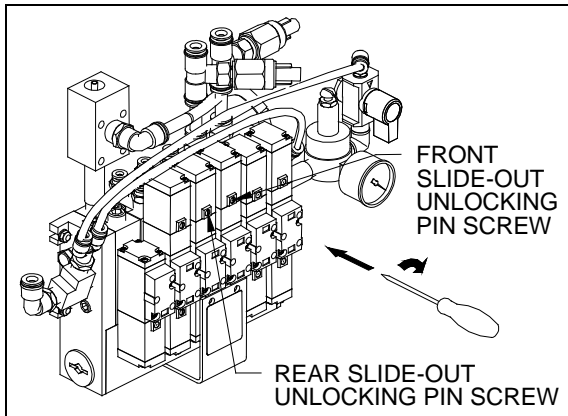

FIGURE 21 : UNLOCKING PIN VALVE LOCATION
- A) Identify the proper pneumatic valve controlling the unlocking pins of the problem slide-out (figure 21).
- B) Ensure the ignition key is in the "OFF" position. When the proper valve has been identified (right side for front slide-out and left side for rear slide-out), turn clockwise the "pin valve manual override screw" to actuate the unlocking pins (figure 21). Keep the override screw in this position. During the process, you should hear a hissing sound, as the air flows to the pin cylinders.